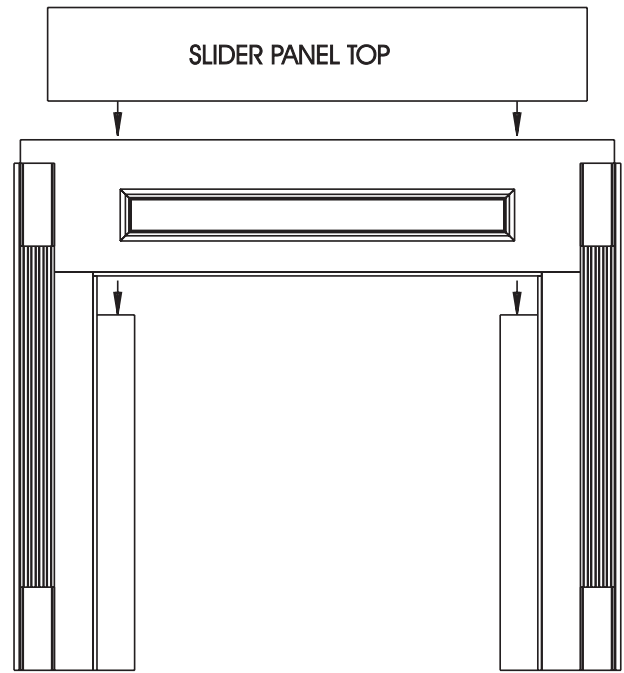

Figure 5
- Insert slider panel top behind breastboard and rest on the top of slider panel sides (See Figure 5).